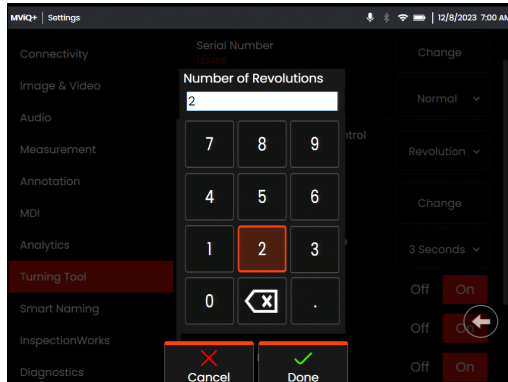

Fig 7a. 'Enter total blade count' prompt
- Enter the total number of blades in that stage. This function enables the counter to return to blade number 1 at the appropriate point to ensure a complete revolution had been performed (Figure 7a). Maximum limit is 999 blades.